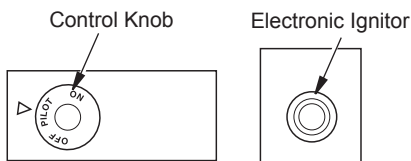

Figure 30 - Control Knob and Ignitor Button Location (Shown as Supplied - No Control Options)
3. Press in and turn control knob clockwise  to the OFF position (see Figure 30).
- Wait five (5) minutes to clear out any gas. Then smell for gas, including near the floor. If you smell gas, STOP! Follow "B" in the safety information, page 20. If you don't smell gas, go to the next step.
- Press in and turn control knob counterclockwise ↶ to the PILOT position. Press in control knob for five (5) seconds (see Figure 30, page 20).